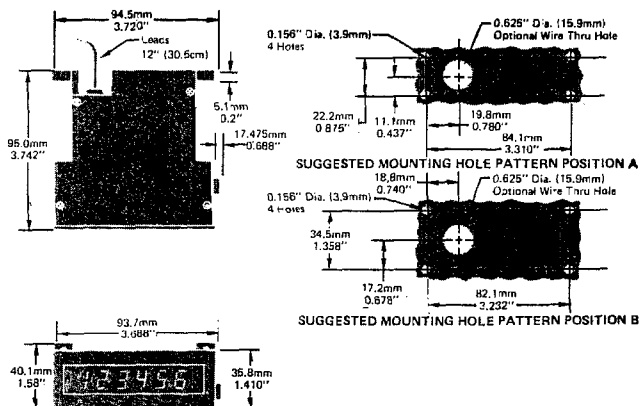

Figure 2. Mounting Dimensions.
Mounting: Base mount versions standard. See Figure 2. Accessory panel mount kits available.
D. BASE MOUNT INSTRUCTIONS. Select the mounting position per Figure 2. Drill mounting screw holes and secure counter to mounting surface with No. 6 screws. Route wire leads through the channel provided. Do not pinch leads between the counter's base and mounting surface.